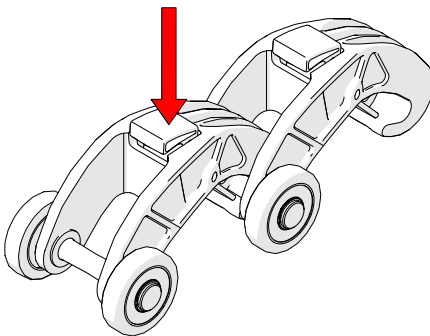

Fig. 27 - Press button
1. Press the button on the top of the QuickLink (Fig. 27).